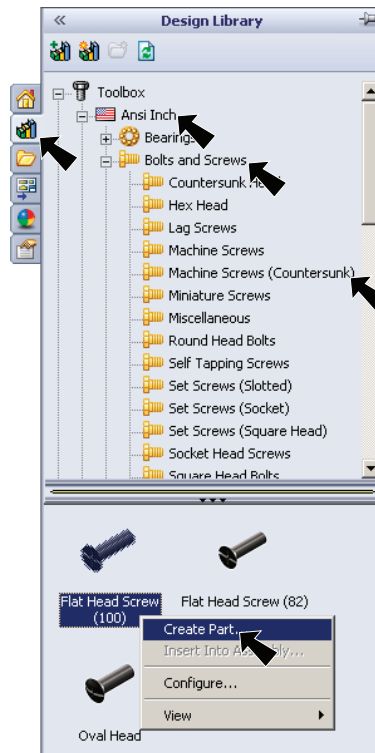

Fig. 2
Step 1. Click the **Design Library** tab  in the Task Pane (right side of drawing area), **Fig. 2**.
Step 3. In the lower pane, **right click Flat Head Screw (100)** and click **Create Part..**, **Fig. 2**.